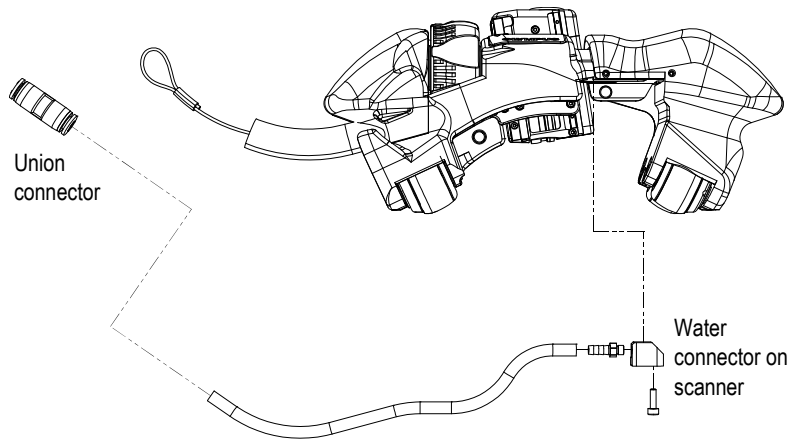

Figure 5-6 Changing the tube (shown disassembled)
1. Remove the screw that fixes the water connector to the scanner (see Figure 5-6 on page 53).